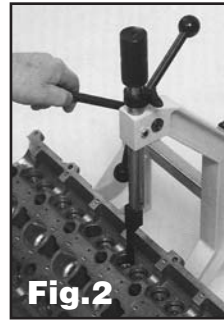

Fig.2
6. Now is the time to push the valve assembly all the way down until the valve keeper locks are released. If the keepers are too tight, the use of the slider hammer on top of the main shaft will help. Just one or two strokes will release them easily. (fig. 2)